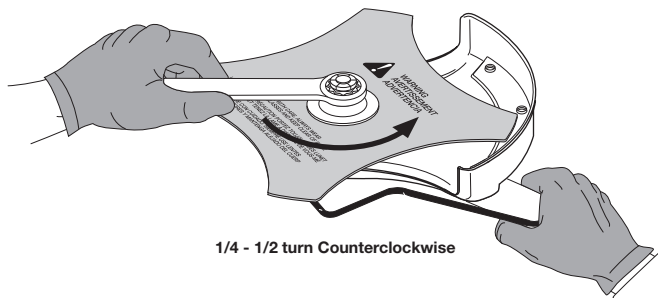

Fig. 15
- Without a torque wrench, use a 13 mm closed-end or socket wrench, turning the nut until the blade retainer is snug against the shaft bushing. Make sure that the blade is installed correctly, then rotate the nut an additional 1/4 to 1/2 turn counterclockwise (Fig. 15).